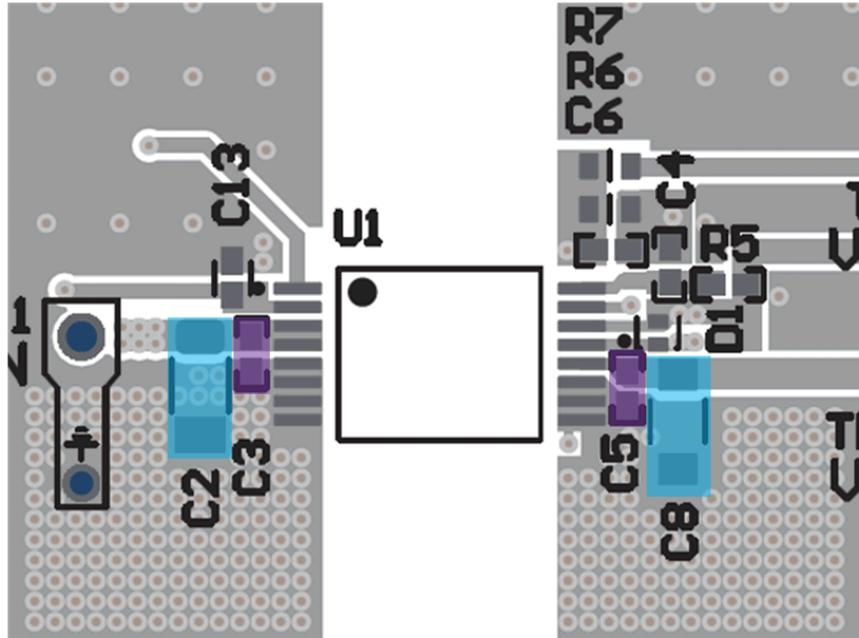

Figure 8-6. VIN (C2, C3) and VDD (C5, C8) Capacitors
- b. Place the bulk VIN capacitor(s) (C2) as close as possible and parallel to the 0.1 μ F high frequency bypass capacitor (C3) and on the same side of the PCB as the IC as shown in Figure 8-6.
2. Power good pin decoupling capacitor: The decoupling capacitor should be placed close to pin 2 (power good pin) and on the same side of the PCB as the UCC35131-Q1. Refer to C13 placement shown in Figure 8-6.
- b. Place the bulk VDD-COM capacitor (C8) as close as possible and parallel to the 0.1 μ F high frequency bypass capacitor (C5) and on the same side of the PCB as the IC as shown in Figure 8-6.